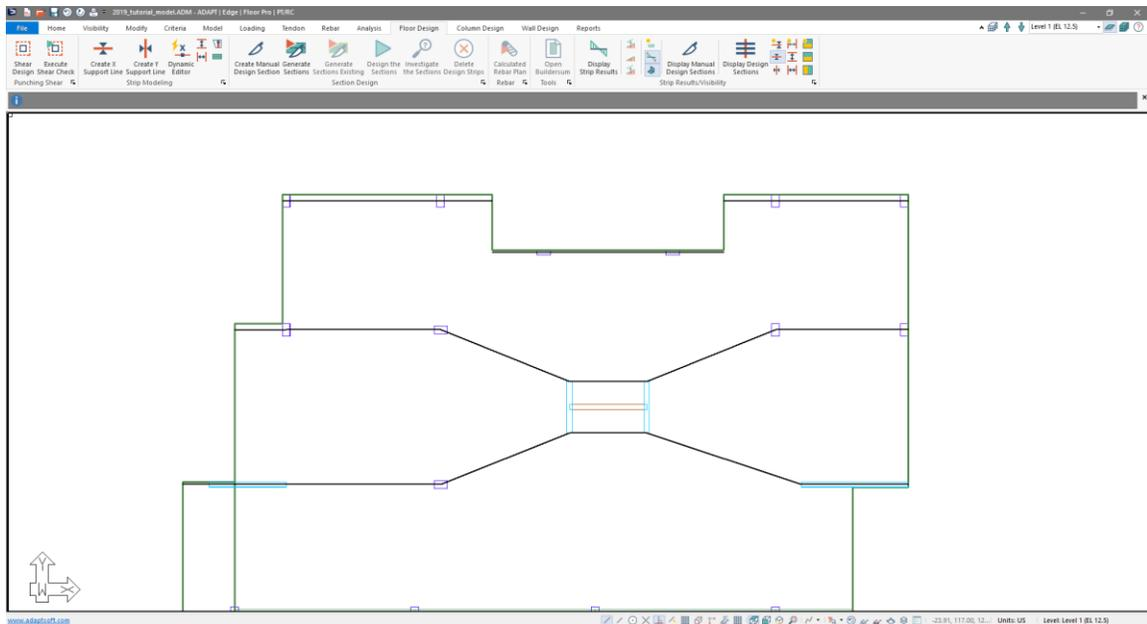

Figure 9-18
- Enter the last support line for the last two supports in the same fashion as you entered the first support line for this column line. When all X-direction support lines are entered the user’s model should look similar to **FIGURE 9-18**.